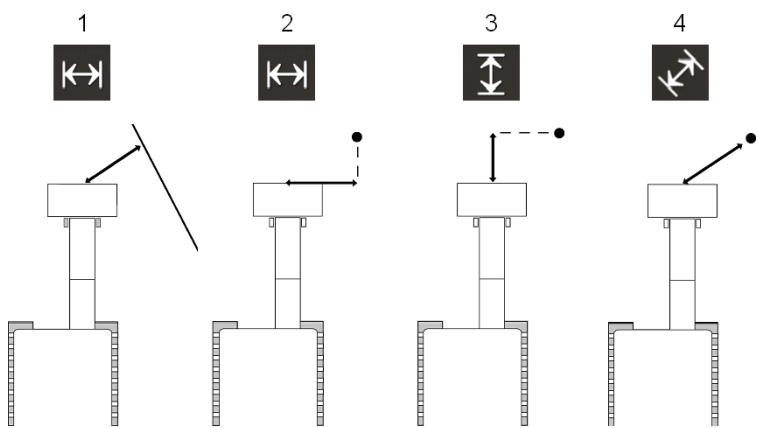

Fig. 8: Symbols
• The horizontal sideways distance between the bucket measuring point and the reference point (Fig. 8)
• The horizontal lengthwise distance between the bucket measuring point and the reference point (Fig. 8)
The two-dimensional distance on a horizontal plane (X, Y) between the bucket measuring point and the reference point (Fig. 8)
The horizontal sideways distance between the bucket measuring point and the reference line (Fig. 8)